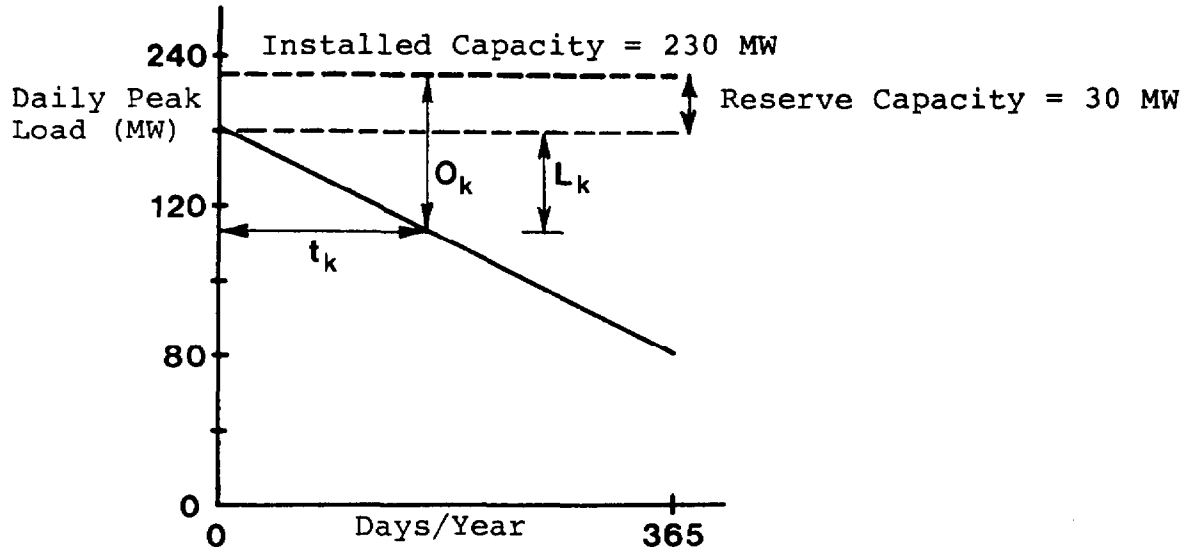

Figure 6
- b) The annual daily peak load variation curve is shown in Figure 6.
By similar triangles in Figure 6,